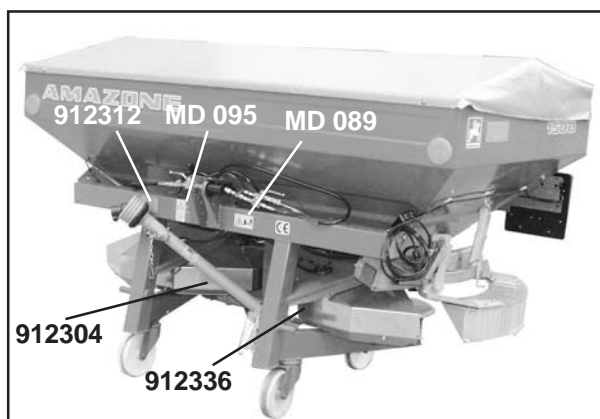
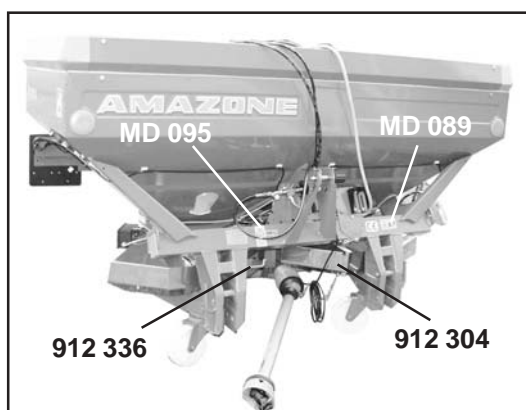
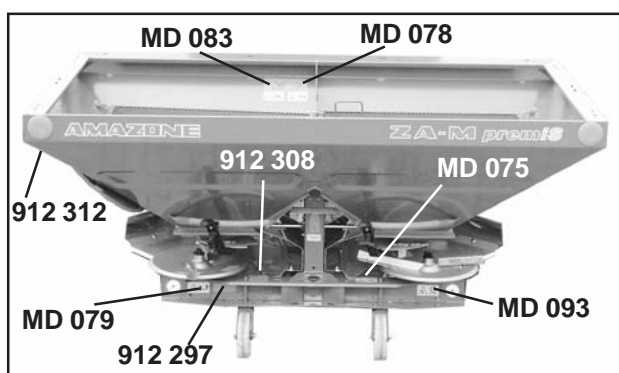

Fig. 2.1
Fig. 2.2
Fig. 2.3
- Fig. 2.1, Fig. 2.2 and Fig. 2.3 show the fixing points of warning pictographs and hint signs. Please refer to the following pages for relevant explanations.